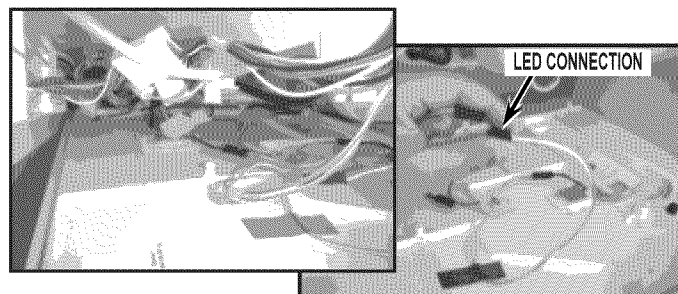

FIGURE 8
10. To remove the water reservoir cover, slide it completely forward and disconnect LED lighting connection. Place to side. See *Figure 8*.